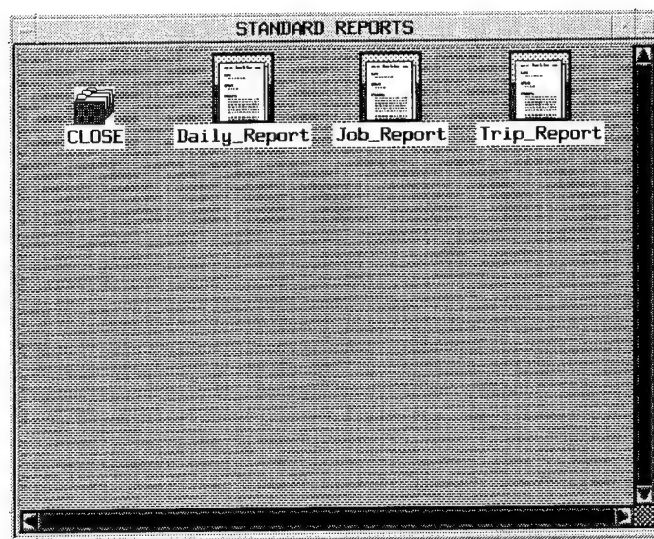
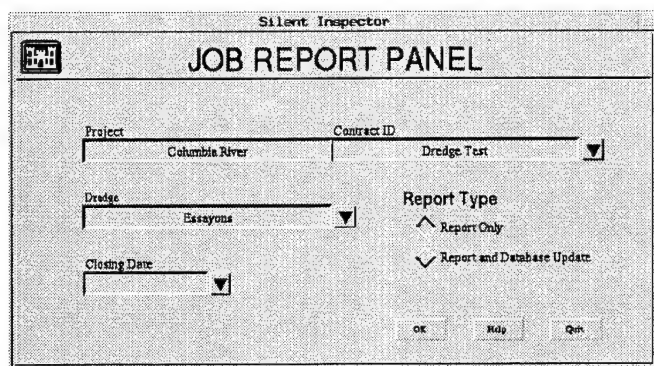

Figure 40. **Standard Reports** main menu screen
Figure 47. **Job Report Panel** screen
- Click on the **Trip Report** icon on the **Standard Reports** main menu screen (Figure 40).
- Click on the **Daily Report** icon on the **Standard Reports** main menu screen (see Figure 40).
- Click on the **Job Report** icon on the **Standard Reports** main menu screen (see Figure 40) to reach the **Job Report Panel** screen (Figure 47).